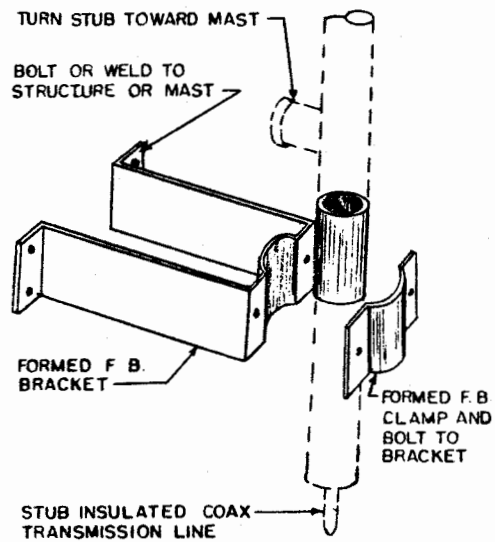

Figure 11-94. Details of Hanger for 7/8 Inch Line
e. The line should be fastened to the mast or structure as shown in Figure 11-94.